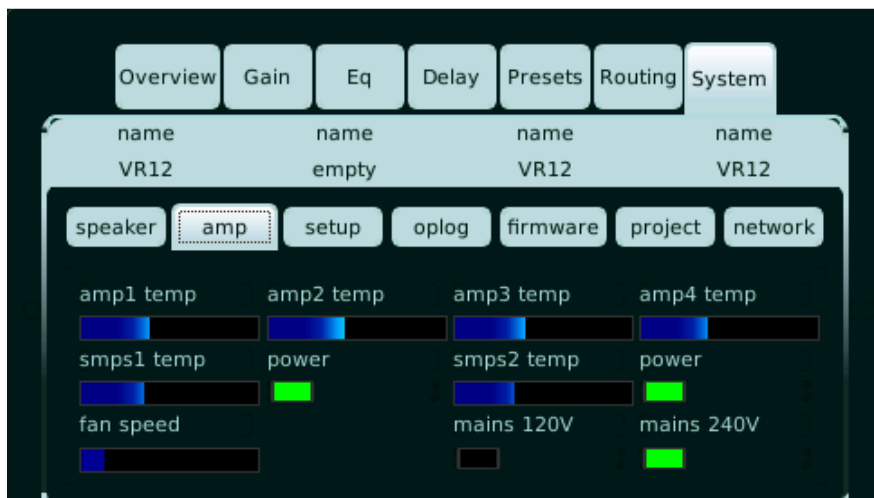

Fig 21. Amplifier status, temperature scales, fan speed level 1, AC mains 240V indication
7.7.2 Amp - this sections indicates the temperature of the power supplies (“SMPS” 2x) and amplifier stages (“amp” 4x) through a color scale from blue to red. (see fig.21)